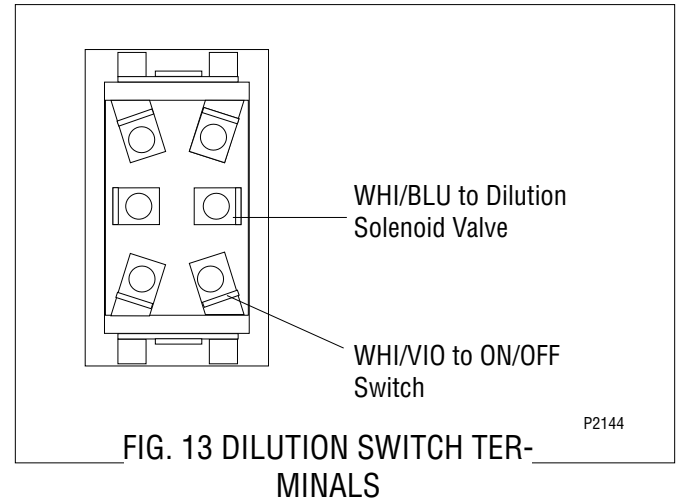

FIG. 13 DILUTION SWITCH TERMINALS
4. Refer to Fig. 13 when reconnecting the wires.